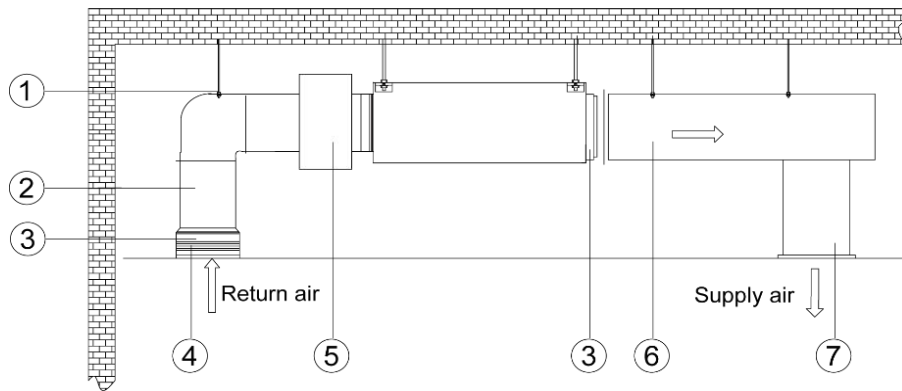

Fig. 20
1. Installation of the Rectangular Duct (Fig. 20)